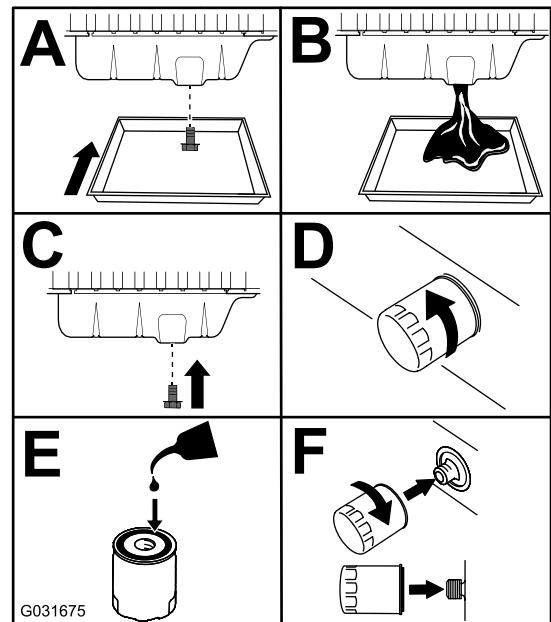

Figure 75
3. Replace the engine oil and filter (Figure 75).